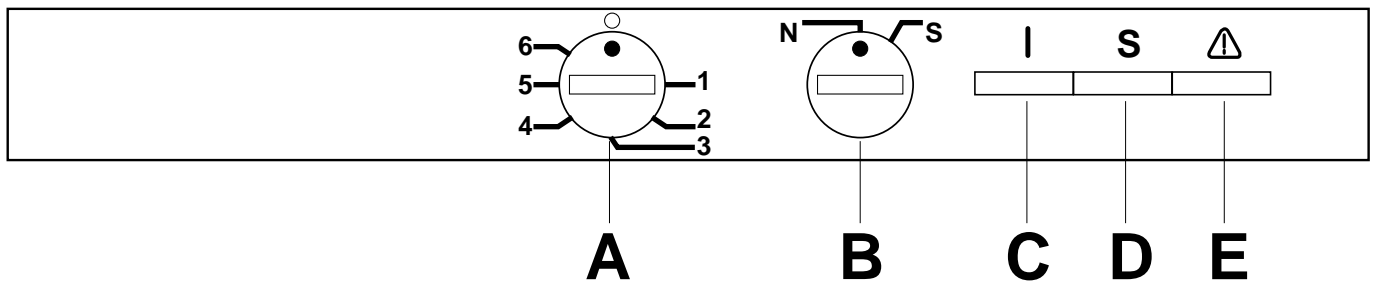

Fig. 6
Freezer Controls (Fig. 6)
Insert the plug into the wall socket. The pilot light (C-Fig. 6) will light up to show that the appliance is on.
The temperature within the freezer is controlled by the thermostat situated at the top of the cabinet (A-Fig. 6).
When you first start the freezer or after a period of non-use, turn the knob (B-Fig. 6) to «S» (fast freeze position) 2-3 hours before you want to freeze your food (the yellow light (D) lights up).
Turn the thermostat control (A-Fig. 6) to the «O» setting.